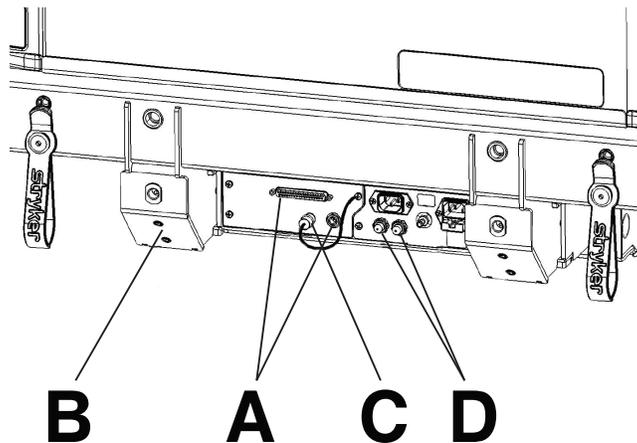

Figure 4 – 37-pin connector and 1/4" jack
1. Plug the interface cable into the 37-pin connector or 1/4" jack in the litter frame at the head end of the product (A) (Figure 4) and into the applicable connection (patient station, head wall, or docker station).
- Make sure that you insert the 1/4" jack dummy plug (C) into the 1/4" jack when not in use.
2. Use a #2 Phillips screwdriver and two screws (#10-32) to secure the strain relief (B) that holds the interface cable to the litter frame for strain relief (Figure 4).